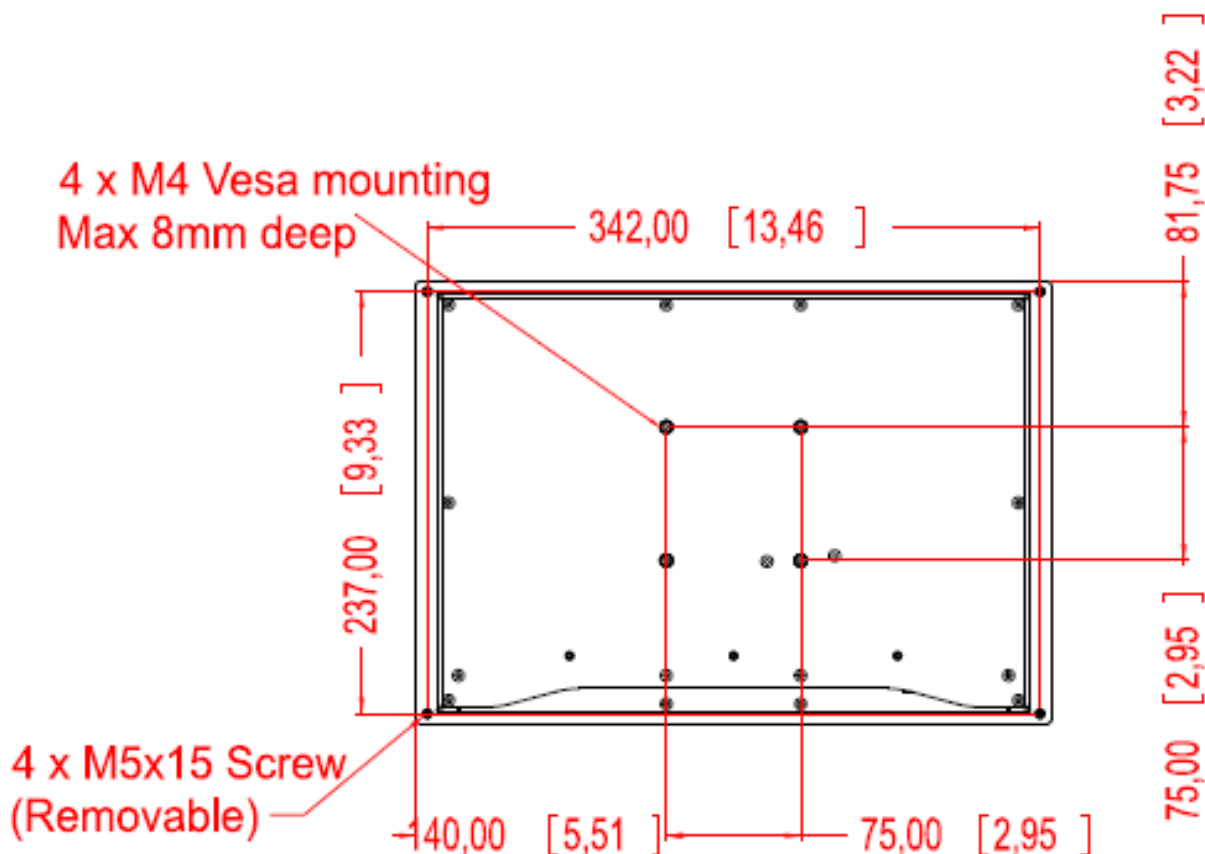

Figure 3 – TSM1330C VESA Arm Mounting Retention Screw Holes
- Step 3:** Align the retention screw holes on the mounting arm interface with those in the TSM1330C. The arm mount retention screw holes are shown in Figure 3.